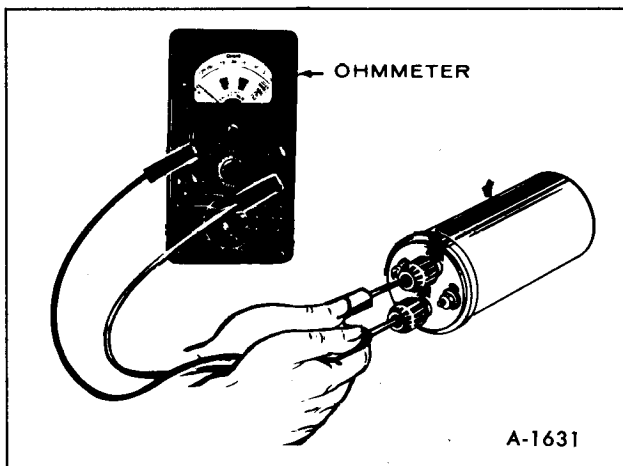

Figure 42-Coil Test
3. Change resistance setting on ohmmeter. Place ohmmeter leads inside spark plug cable holes. Secondary resistance should read 14,000 ( $\pm 10\%$ ) ohms (figure 42).